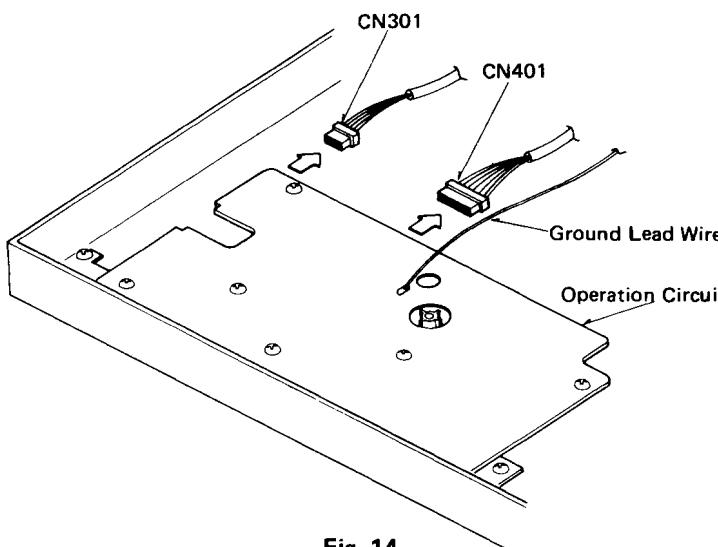

Fig. 14
3. Pull out the 2 connectors (CN301, CN401) from the operation circuit P.C.B. (Fig. 14)